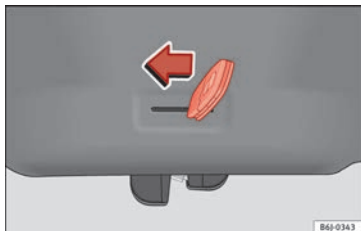

Fig. 4 Unlocking the rear lid manually.
- Insert the key in the groove and unlock the locking system, turning the key from right to left, as shown by the arrow » **Fig. 4**.